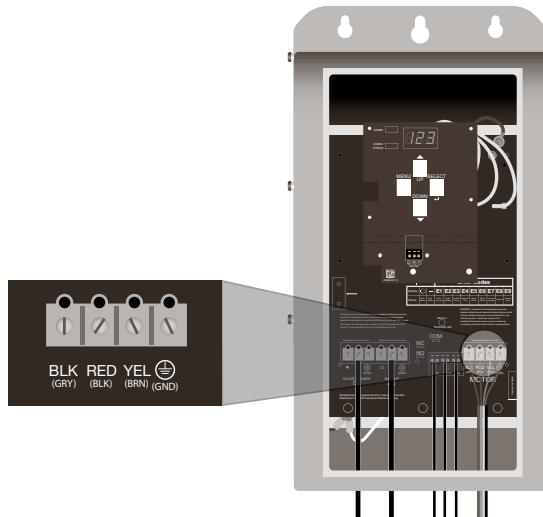

Figure 8: Motor Wiring Connection
1. Connect the cables from the Pump/Motor Assembly to the Terminal Block labeled "MOTOR" and marked BLK, RED, YEL, and GND (Figure 8) (Torque specification: 15 in-lbs/ 1.7 N-m).